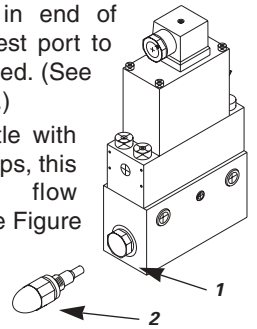

Figure 5
1. Remove plug in end of sub-plate nearest port to be flow controlled. (See Figure 5, No. 1.)
2. Screw in throttle with hand until it stops, this is maximum flow restriction. (See Figure 5, No. 2.)